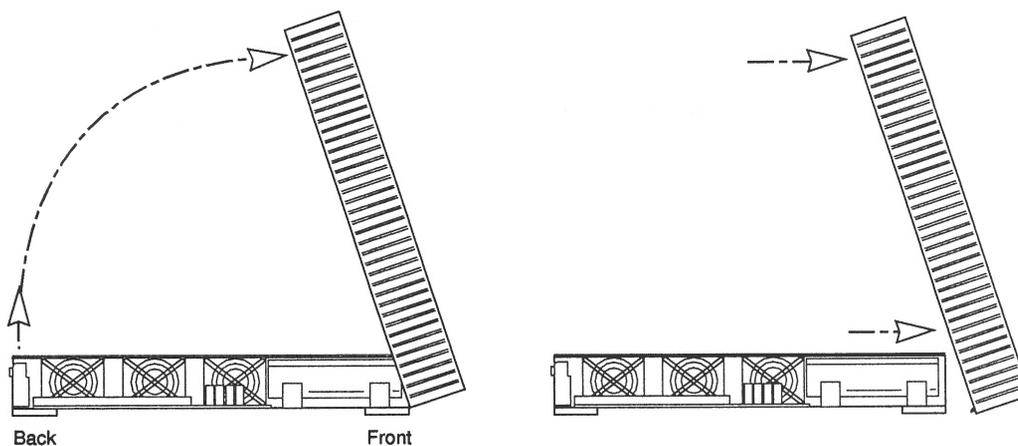

Figure 3-3 Removing the SPARCstation 10 Cover
4. Grasp the sides of the cover and lift the backend of the cover. Refer to Figure 3-3.